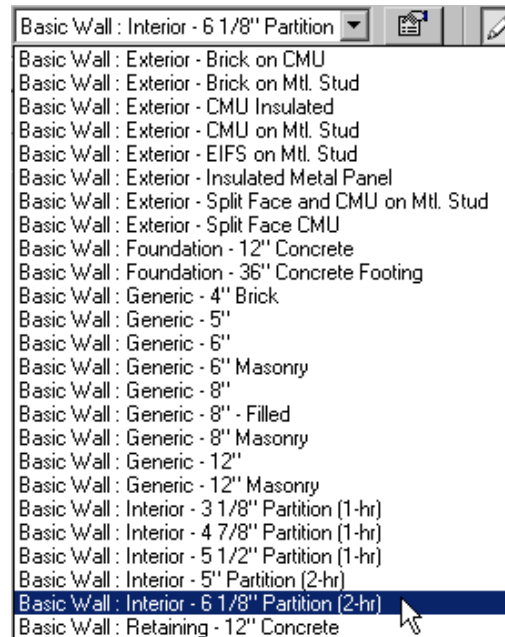

Figure 2-60 Selecting the interior wall type from the **Type Selector Bar**
- c. Select the **Basic Wall: Interior - 6 1/8" Partition (2-hr)** wall type, refer to Figure 2-60.
1. Click on the **Type Selector Bar** to display the walls available in Autodesk Revit Building. Choose **Basic Wall: Interior- 6 1/8" Partition (2 hr)**, as shown in Figure 2-60.